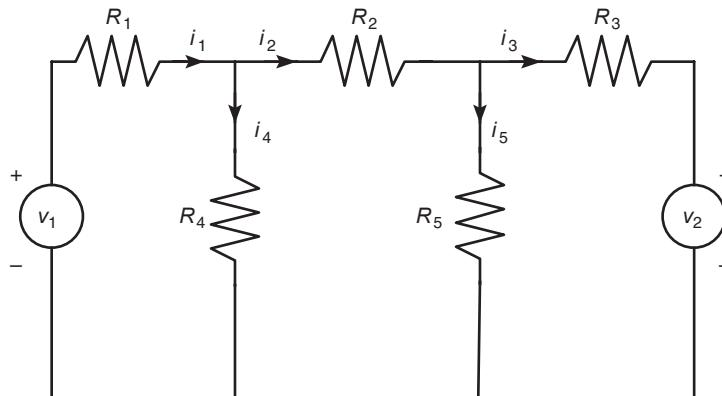

Figure P12
- 12.** The currents i_1, i_2 , and i_3 in the circuit shown in Figure P12 are described by the following equation set if all the resistances are equal to R .